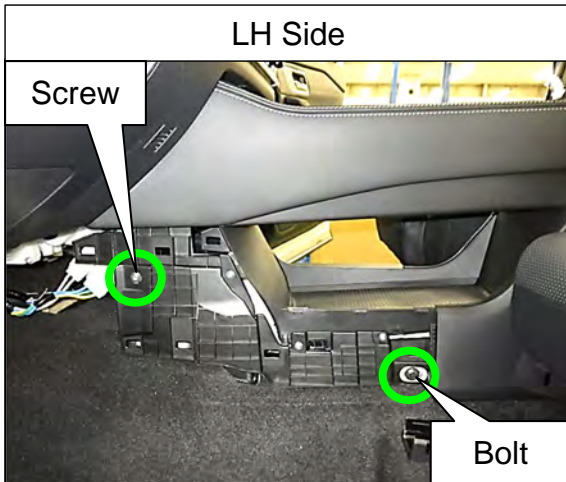
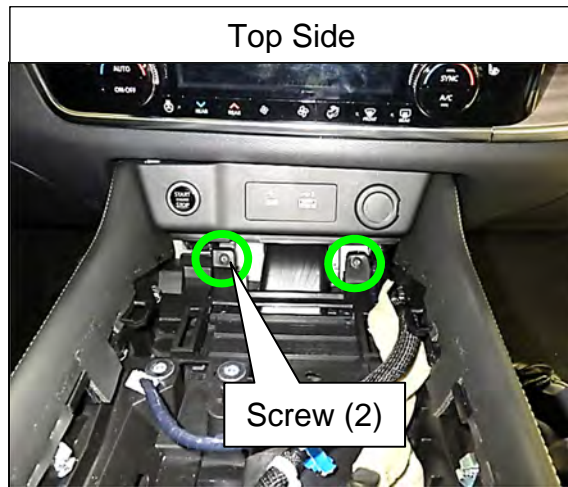

Figure 42
Figure 45
31. Remove the four (4) screws, two (2) bolts, and two (2) nuts securing the center console assembly, as shown in Figure 42 - Figure 45.